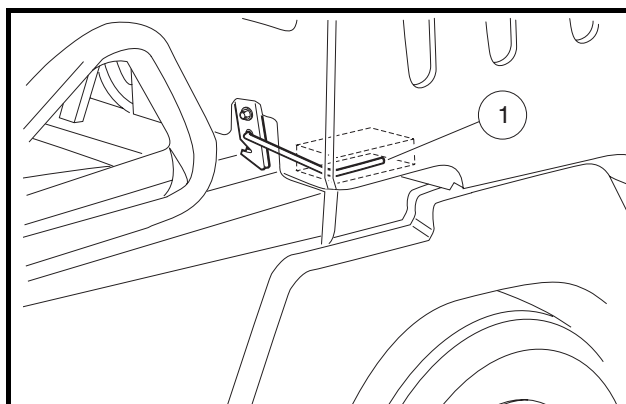

Figure 15 Bed Latch
The bed latch (1) is located under the front corners of the bed (**Figure 15, Page 24**) and engages automatically when the bed is closed. To lift the bed, pull the bed latch toward the side of the vehicle and lift the bed. To close the bed gently lower the bed to a closed position. **DO NOT** drop the bed. See following **WARNING**.